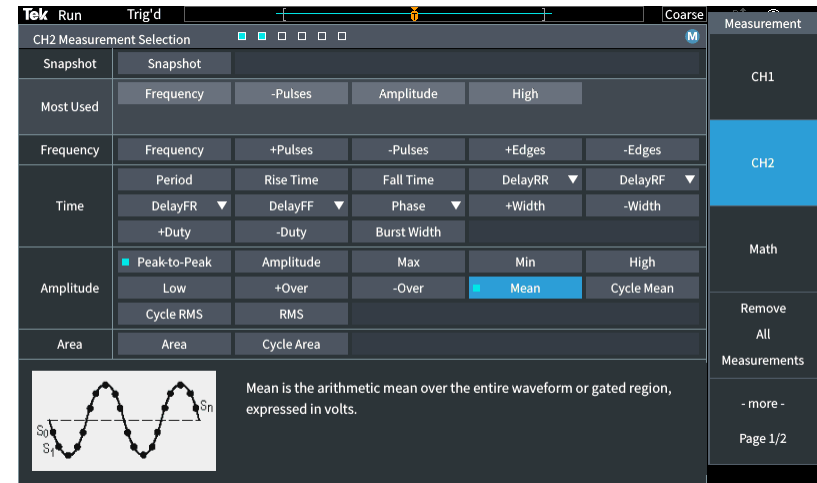

Figure 12. Auto Measurement selection menu
4. Notice, from top to bottom(Figure 12):